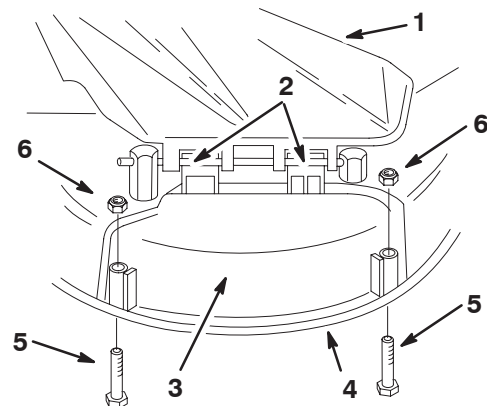

Figure 2
2. Lift the grass deflector and slide the tabs on top of the discharge cover under the grass deflector retaining rod. Rotate the discharge cover down over the opening, and onto the lower lip of the mower (Fig. 2).
3. Secure the discharge cover to the lower lip of the mower with 2 bolts (1/4 x 2-3/4 inch) and 2 nuts (1/4 inch) (Fig. 2).
2. Remove the 2 bolts (1/4 x 2–3/4 inch) and 2 nuts (1/4 inch) that secure the discharge cover to the mower (Fig. 2).